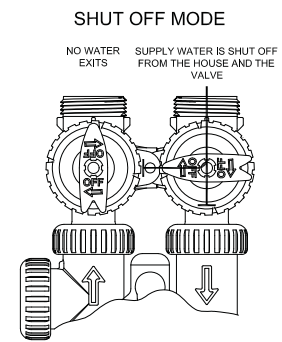

figure 4
**4. Shut Off Position:** The inlet handle points to the center of the bypass valve and the outlet handle points in the direction of flow, the water is shut off to the plumbing system. If water is available on the outlet side of the conditioner it is an indication of water bypass around the system (i.e. a plumbing connection somewhere in the building bypasses the system). (see figure 4)